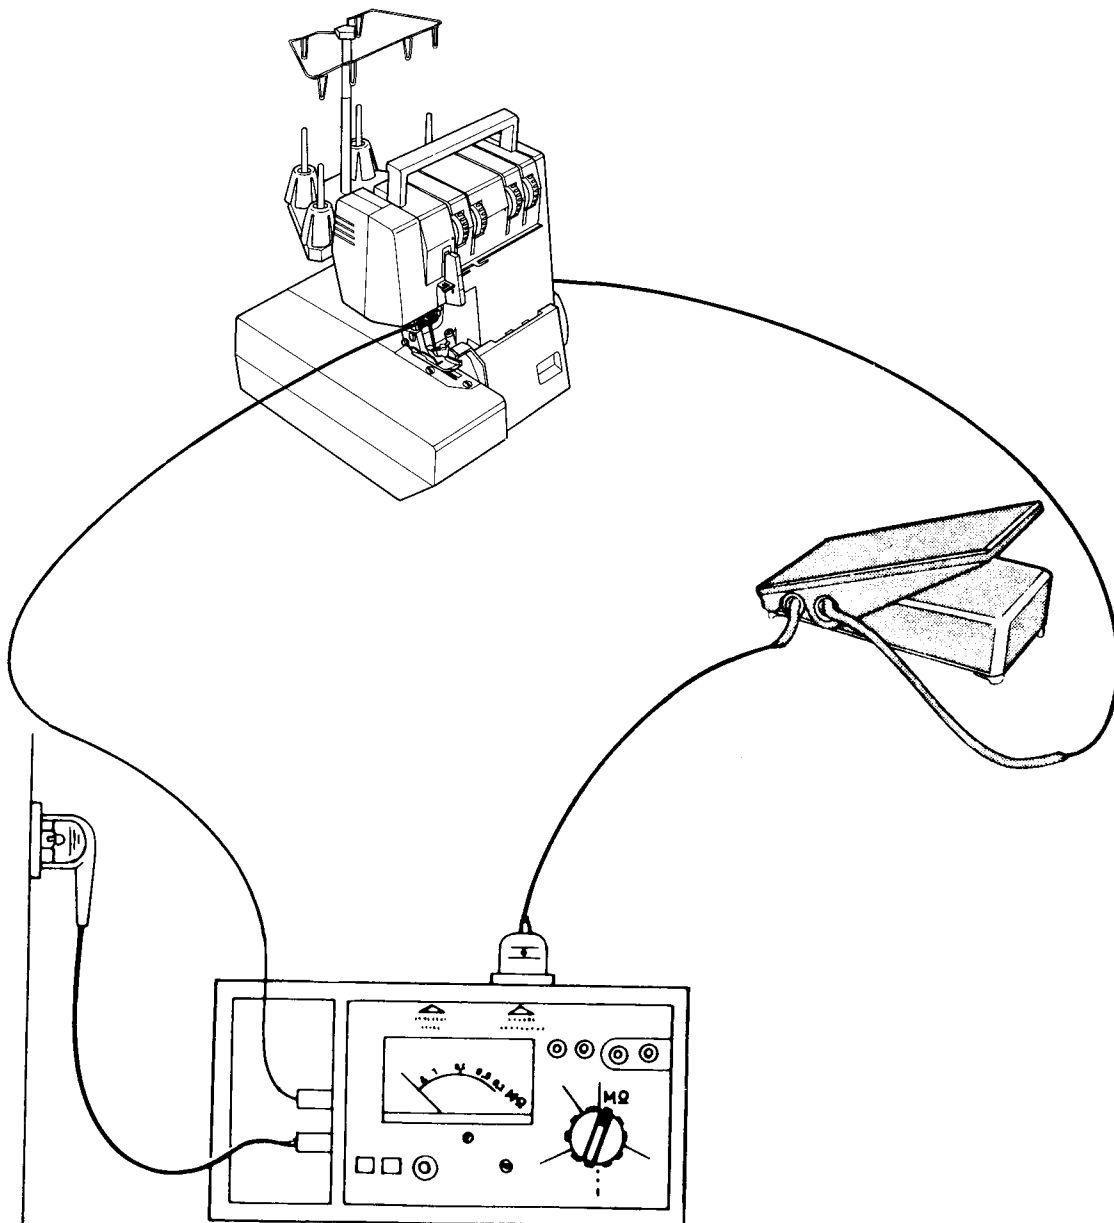

Fig. 65
- * Insert sewing machine plug in right socket (see Fig. 65).